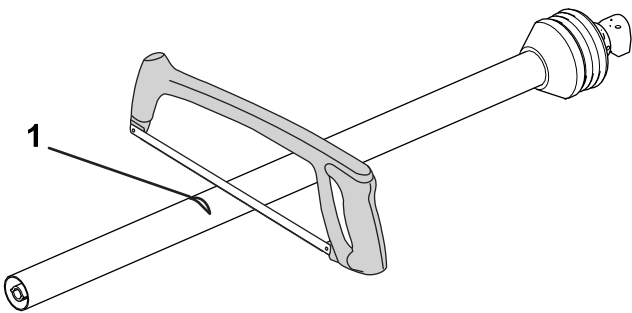

Figure 13
8. Deburr the ends of the sections (Figure 13).